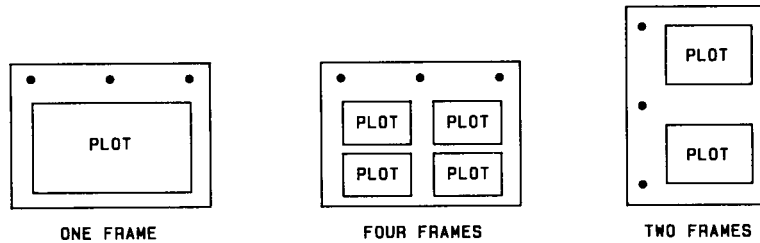

Figure 8-1. Plot Formats
- recreate the spectrum analyzer display in three different formats that contain from one to four plot positions (refer to Figure 8-1).
changes the position of the plot on the paper for two of the three formats (refer to Figure 8-1).